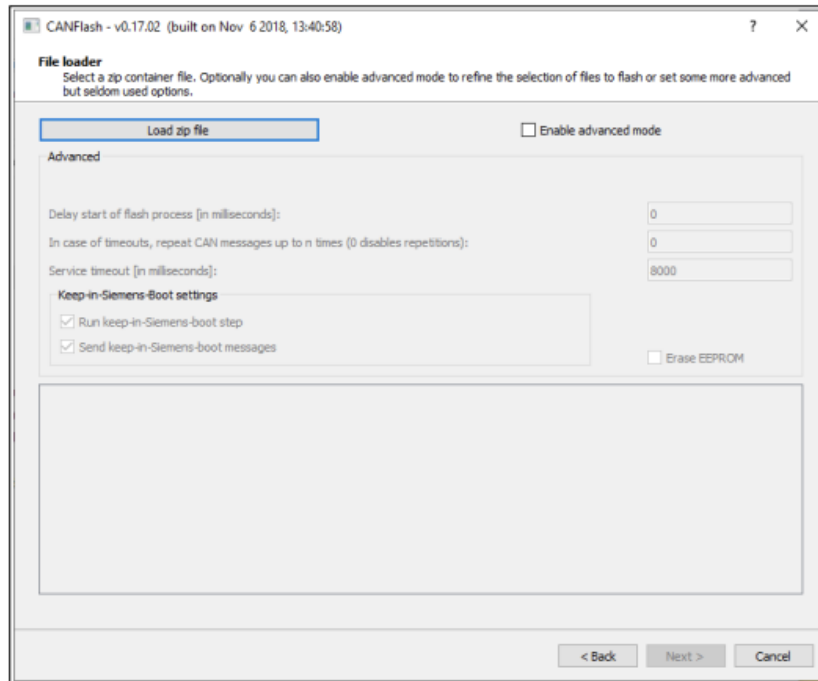

Figure 28: Load zip file in CANFlash
81. Click **Load zip file**. Select **SS1000214_Official Release Bootloader 5.11.zip** (see figure 28). Ensure the knob on top of 1144289 is set to inverter ID 2. Click **Next** when complete.